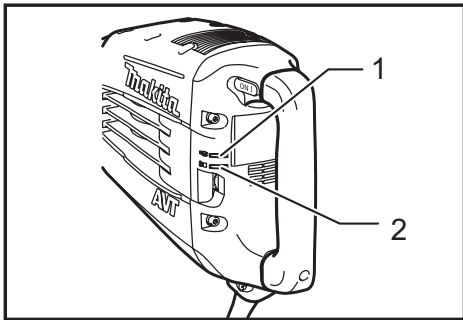

Fig.3
- Fig.3: 1. Power-ON indicator lamp (green)